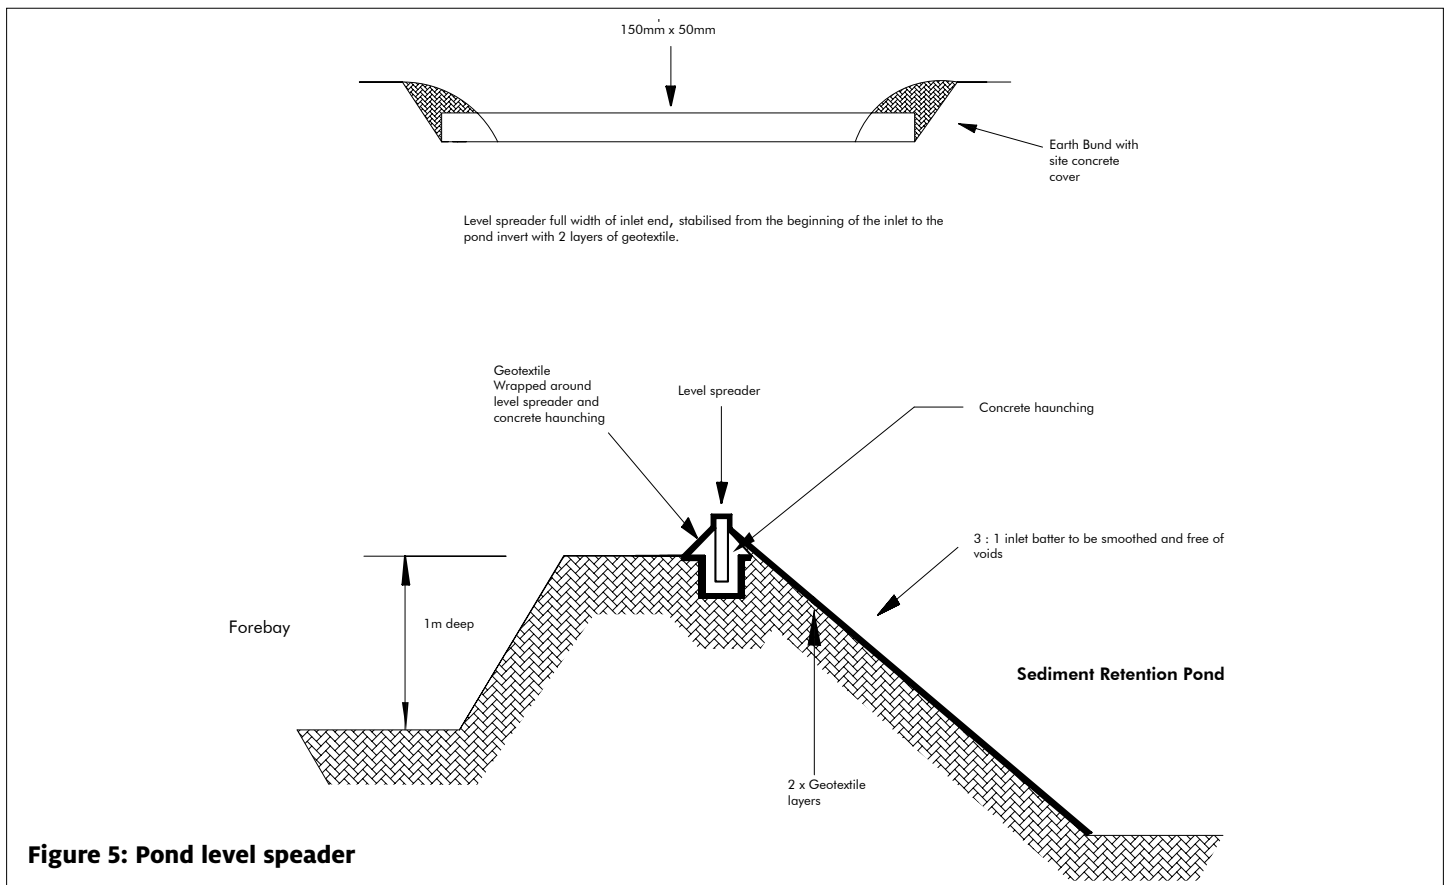

Figure 5: Pond level spreader
- Ensure that the sediment retention pond has a level spreader as described in figure 5 to promote the even and gradual dissipation of the heavier inflow water across the full area of the sediment retention pond.